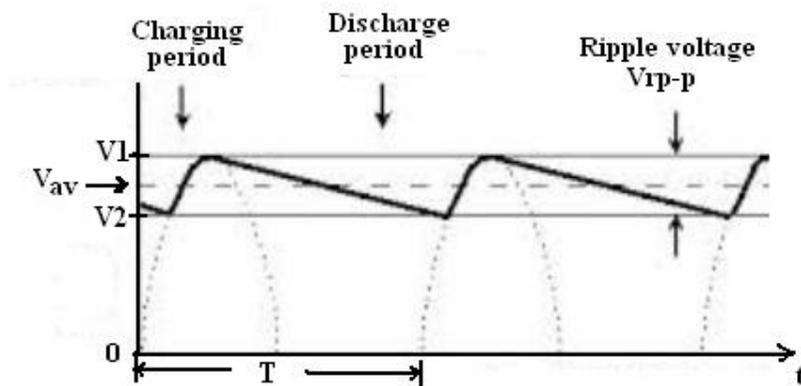

Figure 5
c) The Filter circuit: The rectified signal does not have constant value and it has plenty of ripples so it is not good for applications. It has to be smoothed out in order to obtain direct signals (it is dc only in the sense that it does not change polarity). This can be done by adding **Filter Capacitor** parallel to the load, with a value that is chosen to get minimum ripple voltage. The capacitor will charge to the peak voltage of the rectified signal ($V_P(HWR)$ or $V_P(FWR)$) and when the rectified signal voltage falls below the capacitor maximum voltage, it start to discharge through the load resistance R_L as shown in Figure 5. The discharge time for the capacitor ($\tau = RC$) has to be greater than the period of the input signal (T).